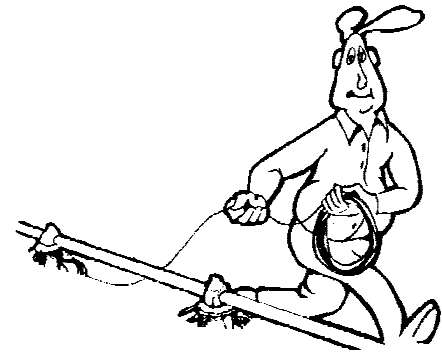

Figure 50. Unrolling Cable
6. Unroll the bulk anti-roost cable. Note: If the cable is unrolled as shown in **Figure 50.**, taking 5 loops of the coil with one hand, then changing hands to remove 5 loops as it is unrolled, it will lie flat during installation.